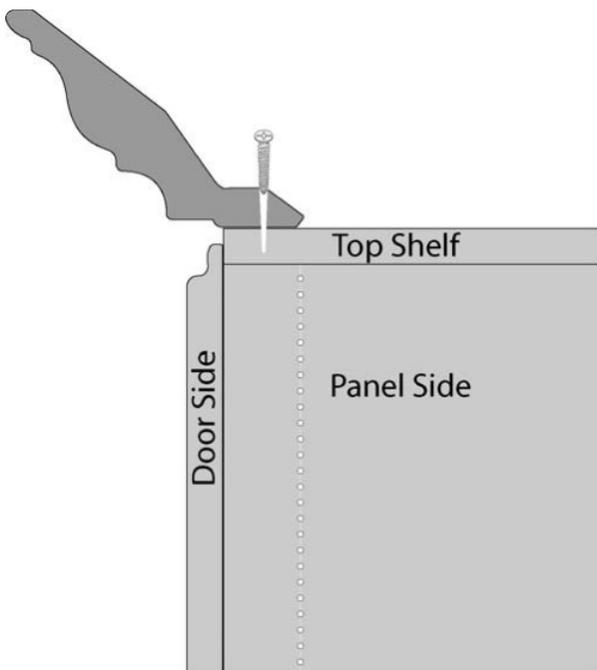

Fig. 12
11. Predrill each screw location to fasten molding to cabinet(s). Screw in the molding through predrill holes in each corner and along the length where needed (approx. every 12”-14”), using #2316 (#8×1¼”) screw (Fig. 12).